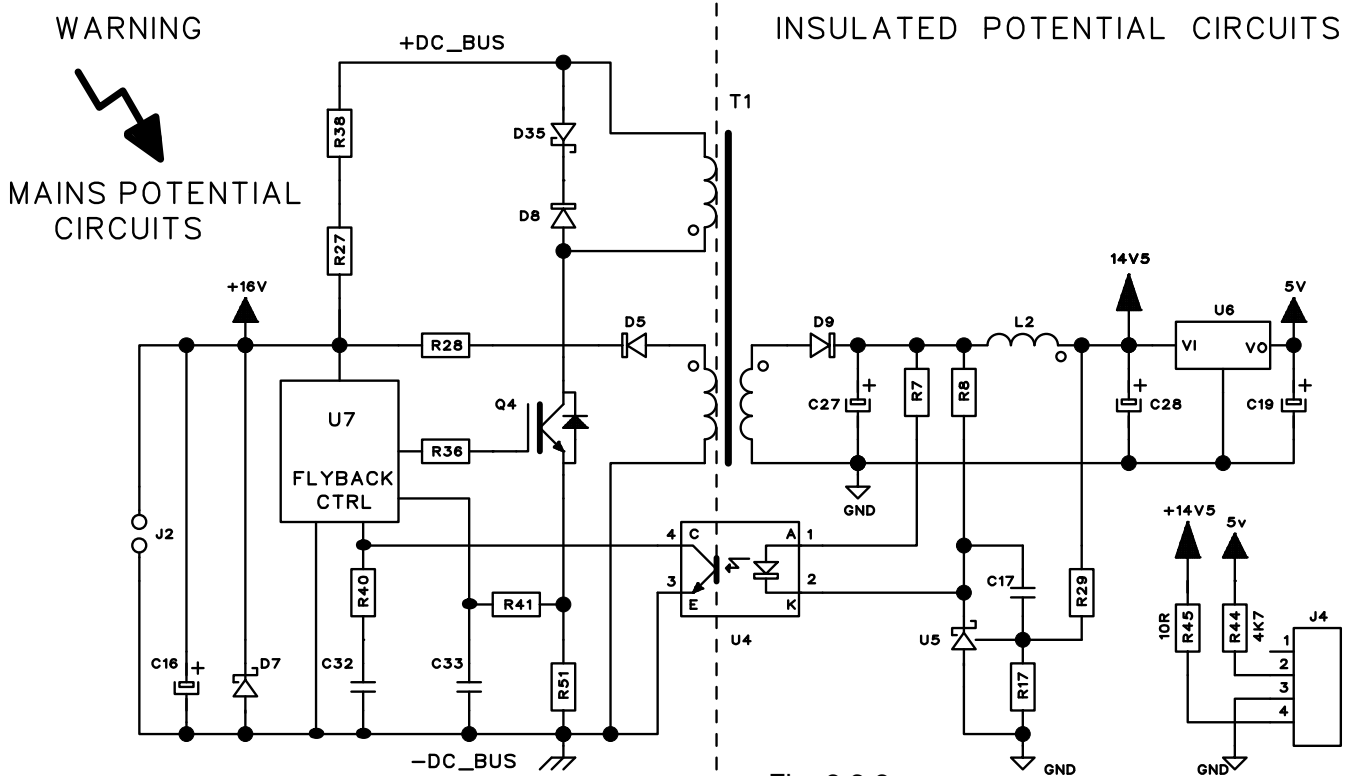

Fig. 2.3.2
These voltages are measurable on the connectors J2 and J4, on power board (13), as indicated in Fig. 2.3.2.
- ◆ If the voltage is not present, turn off the power source and make sure there is no interruption in the power board (13) input connections or in the boost converter inductor (10) connection or check the DC-capacitors terminals are not in short circuit. If the case look for the short circuit cause between the following components: boost converter (Q10 ÷ Q12, etc.), flyback circuit (U7, Q4, D8, D35, etc.), DC-capacitors, inverter igbt and diodes (Q13 ÷ Q20, D24, D25, etc.). Replace them if necessary.
- ◆ If the voltage remains at 330 Vdc check the boost converter circuits (U2, Q7, Q10 ÷ Q12, D22, etc.) and the voltage on J2 of power board (13), as indicated in Fig. 2.3.2 (flyback and boost converter circuits power supply).
- Power board (13), connector J4, terminals:
as indicated in Fig. 2.3.2 (power board (13) circuits power supply).
- ◆ Locate the faulty components, on power board (13) be based on diagram in Fig. 2.3.2 and Connectors map in par. 5.2.
- ◆ Replace power board (13).
- Replace power board (13).